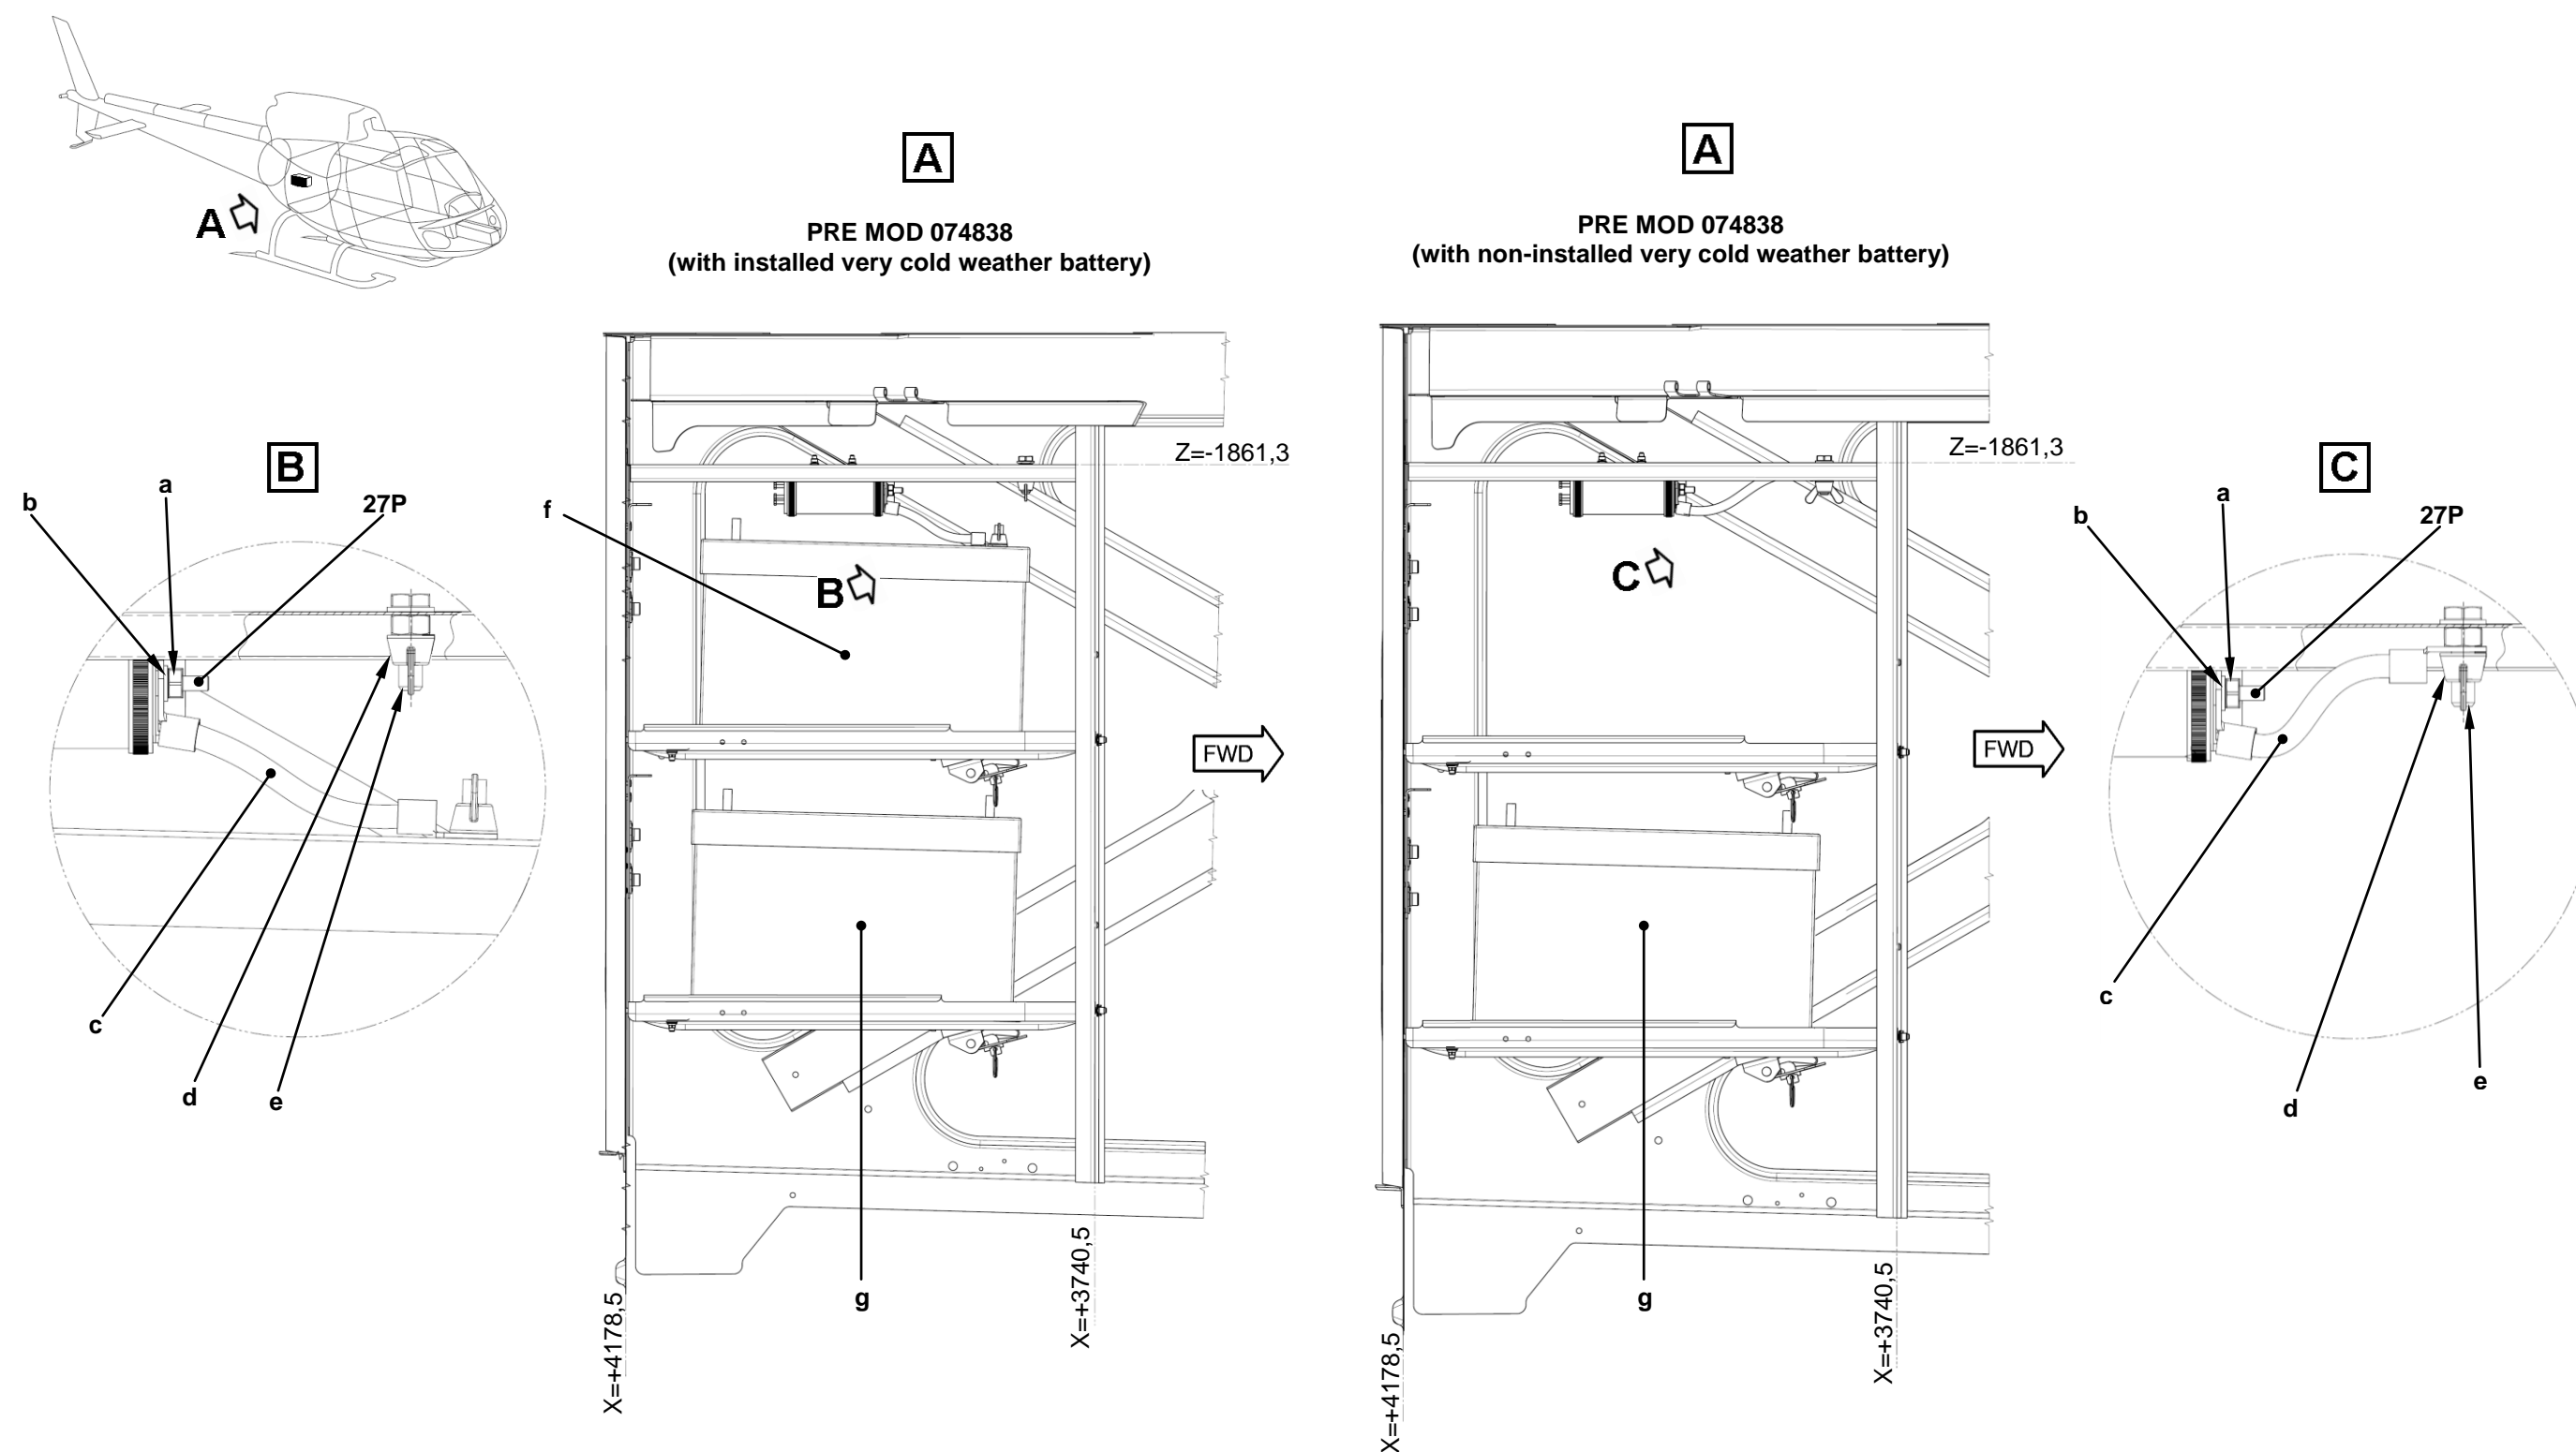

Figure 1
3.B.2. Improvement of the very cold weather starting installation (Figures 1 and 2)